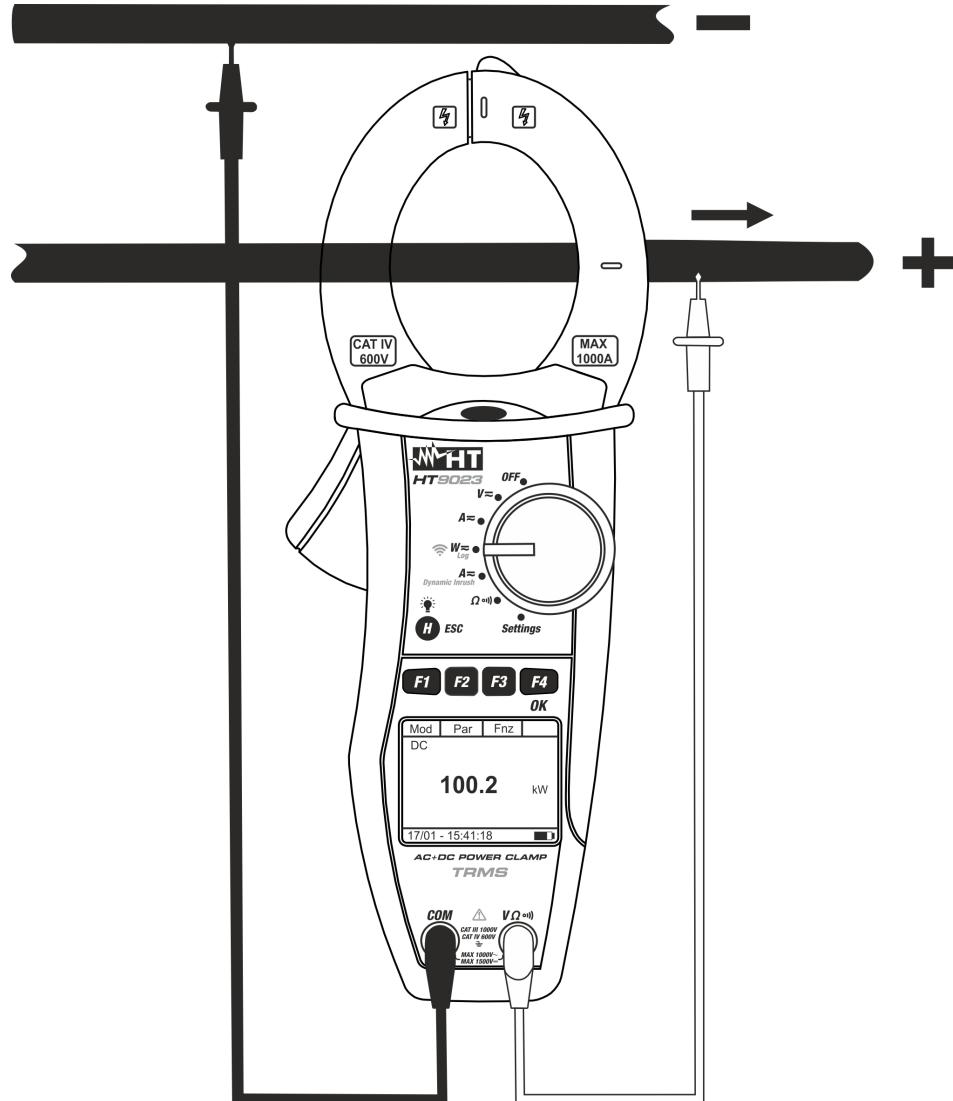

Fig. 12: DC power/energy measurement
5. Connect red cable to input lead **VΩ** and black cable to input lead **COM**. Position red lead to “+” and black lead to “-” then connect “+” cable to the clamp jaws, respecting the direction of current indicated by the arrow (see Fig. 12). Connect the cable to the middle of the clamp jaws, in order to get accurate measurements. Use the marks as a reference (see Fig. 2)
6. The value of DC power is displayed expressed in kW. Press **F2 (Par)** to open the drop-down menu shown on the screen aside and select the “**Volt/Curr**” option for the DC voltage and current measurement. Confirm with **F4 (OK)**. The following screen is displayed: